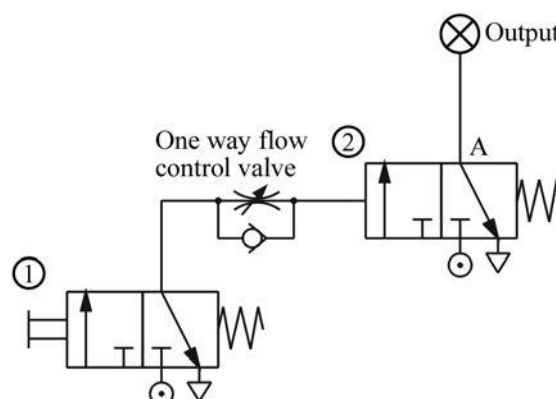

Fig. 26 Circuit diagram of an ON-signal delay circuit
Fig. 26 shows the circuit diagram of an ON-signal delay circuit, which delays the output of the next control valve. When control valve ① is operated, the one way flow control valve will slow down the flow of air, thus delaying the signal output of the outlet of control valve ② (A), resulting in a persistent ON-signal. The time when control valve ② will be restored to its original position is not affected.